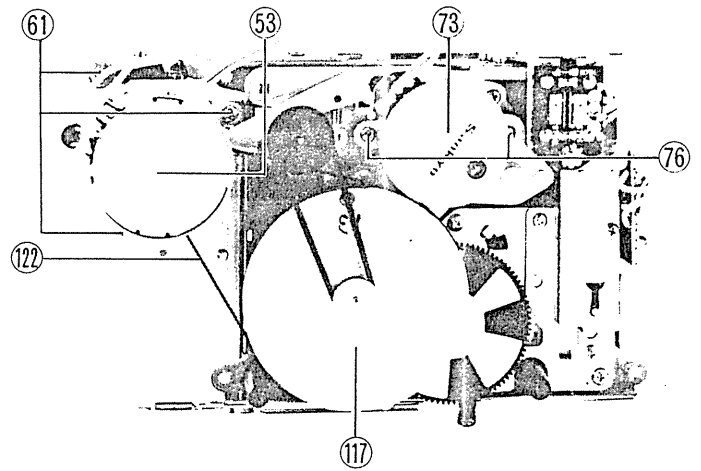

Fig. 13
H. Capstan motor (53) (Fig. 13)
1. Remove the capstan belt (122).
2. Remove 3 screws (61) with motor bracket.
I. Reel motor (73) (Fig. 13)
J. Flywheel ass'y (117) (Fig. 13)